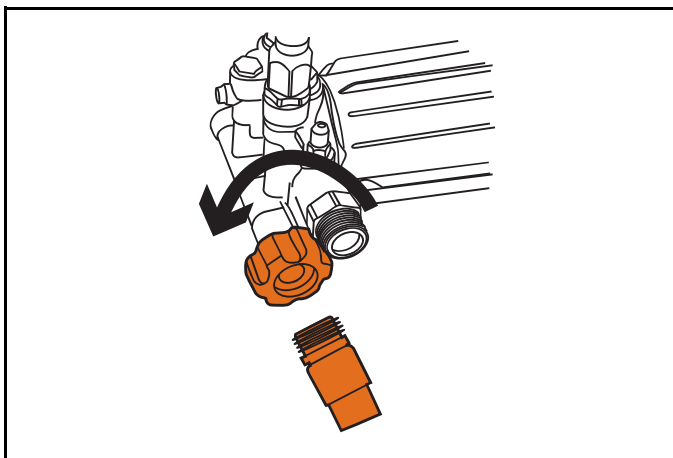

Figure 4-12. Connect Garden Hose
3. Connect the garden hose (not to exceed 50 feet in length) to the water inlet (Figure 4-12). Tighten by hand.